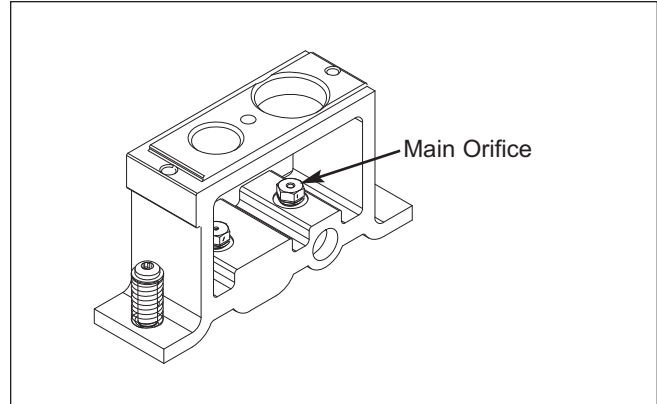

Figure 2.
- Using the 7mm nut driver, remove the main orifice and set aside (See Figure 2).